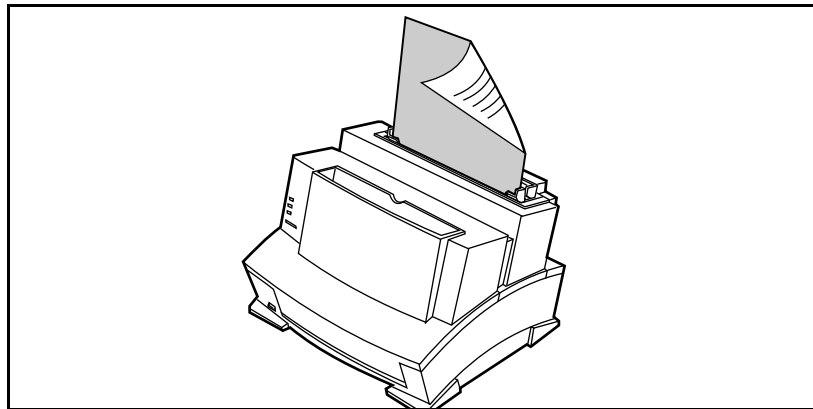

Figure 1. Paper orientation for duplex printing
- 2 To print the second side, insert the media back into the Paper Input Bin or the Single Sheet Input Slot. Make sure the side that has already been printed is facing the back of the printer and the top edge of the paper is down, as illustrated in Figure 1.